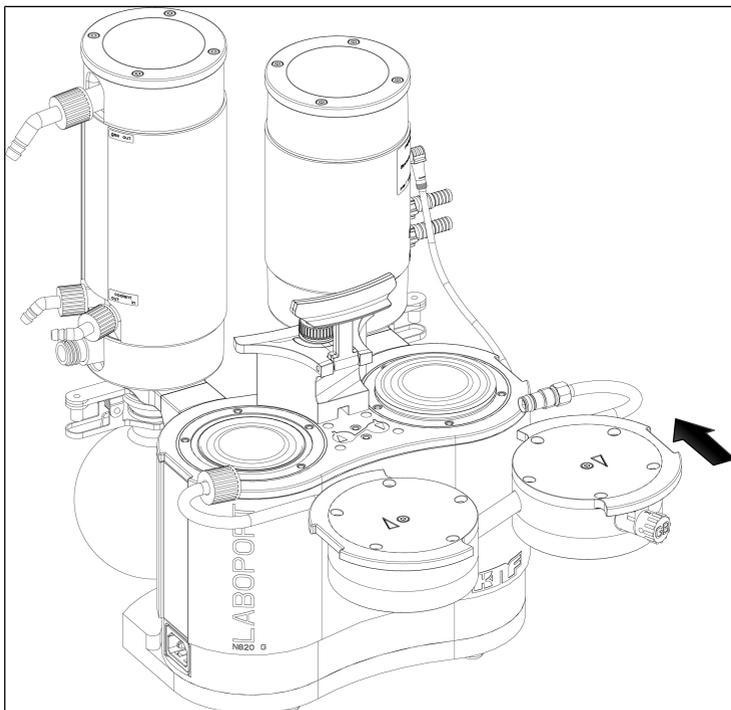

Fig. 29: Mounting the pump head
1. Move the diaphragms (7) to the center position.
2. Press down on the edge of both diaphragms (7) all the way around.
3. Place the head plate (3) on the intermediate plate (6) in line with the locating pin (5).
4. Place the pressure plate (2) on the head plate (3) according to the pencil line.
6. Place the pump heads (consisting of head plate (3), intermediate plate (6) with valve plates/seals (4) and pressure plate (2)) together with the connection tube on the pump housing according to the pencil line (see Fig. 29).